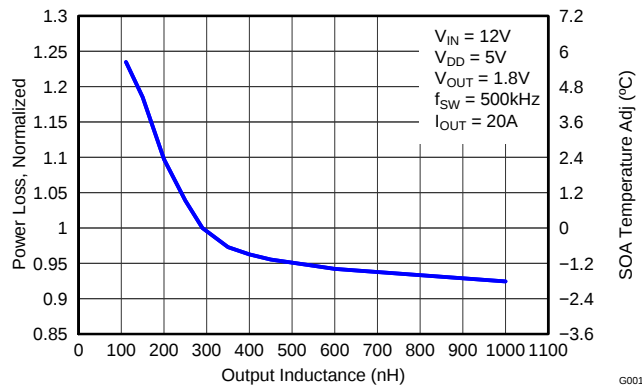

Figure 11. Normalized Power Loss vs Output Inductance
- Normalized Power Loss for output inductor  $\approx 1.10$  (Figure 11)
- SOA adjustment for output inductor  $\approx 2.3^{\circ}C$  (Figure 11)